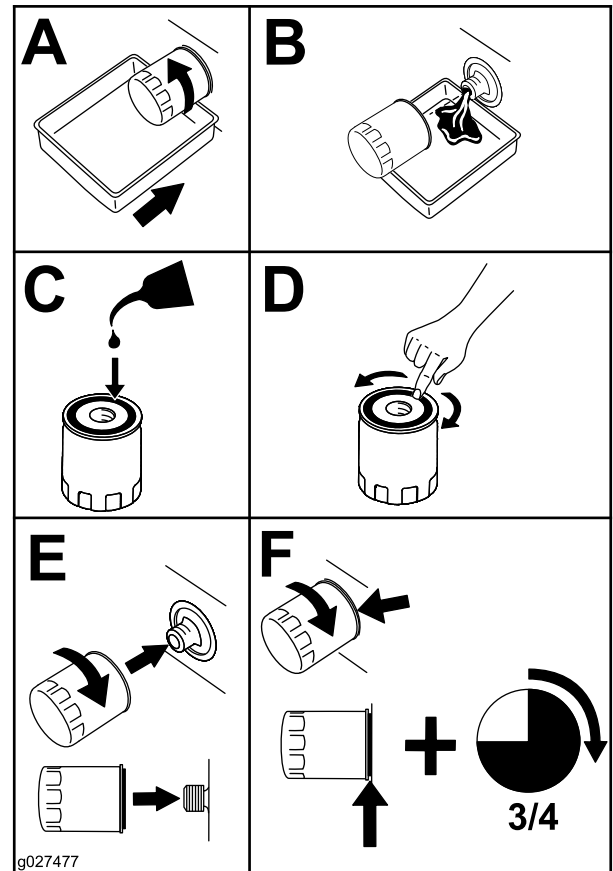

Figure 40
2. Change the engine-oil filter (Figure 40).